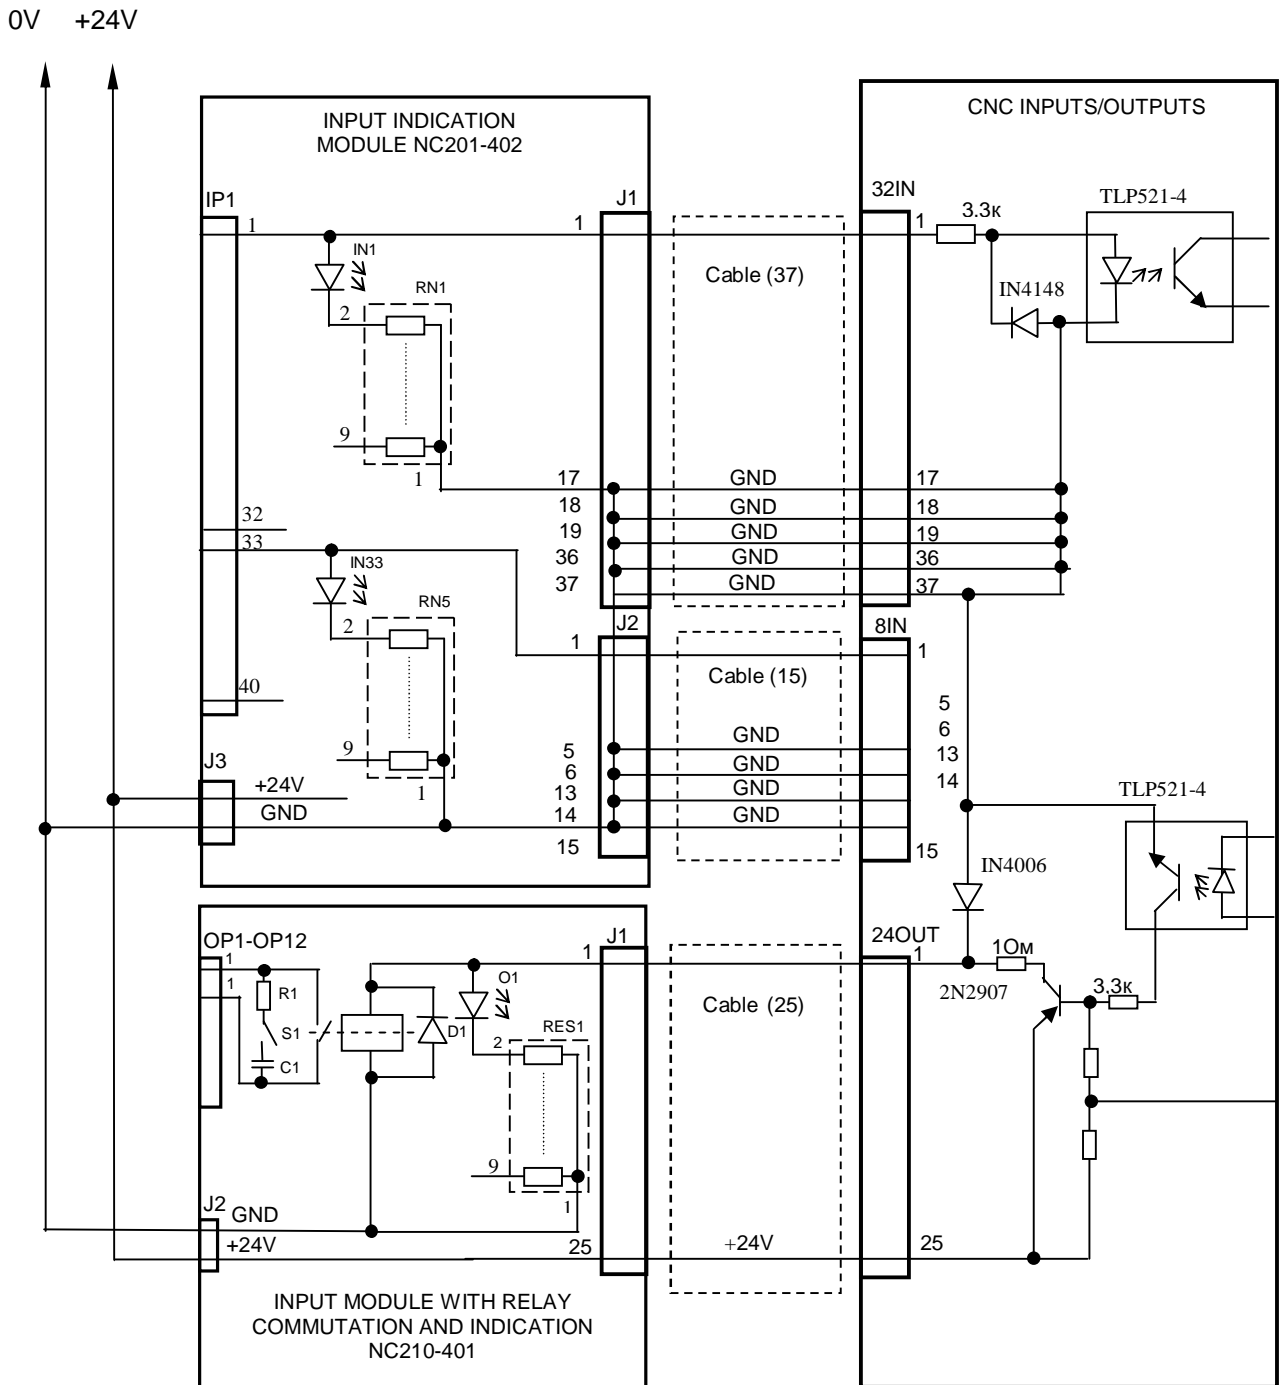

Figure D.2 – Connections Diagram of the NC201-402 and NC210-401 Modules to the CNC Unit
10.4.3.4 The diagram showing the connection of the NC201-402 module to the CNC given in Figure D.2.
10.4.4.4 The diagram for the connection of the NC210-401 module to the CNC Unit is shown in Figure D.2.